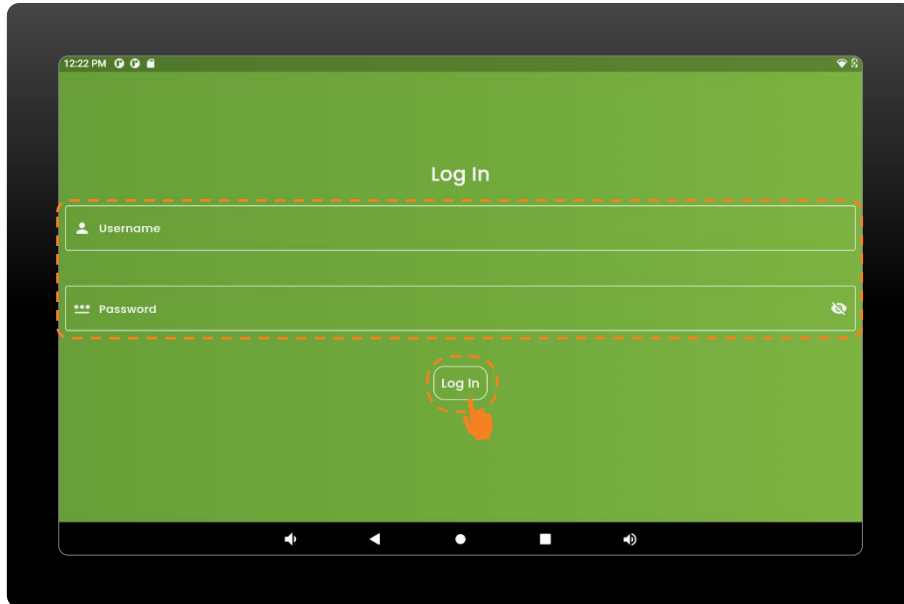

Figure 36 Login Credential Screen.
- This is the charger commissioning application's login screen, where users can enter proper login credentials and then press the login button. (Figure 36)